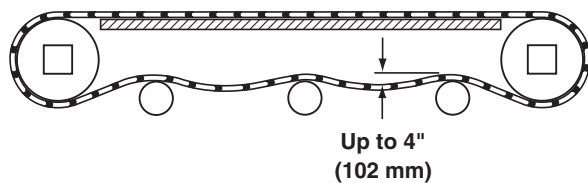

Figure 51
4. Check belt sag by measuring from the top of the return (Figure 51). Belt sag should not exceed 4" (102 mm). Follow steps 7 – 9 in the "Belt Installation" section on page 15 to remove slack from the belt.